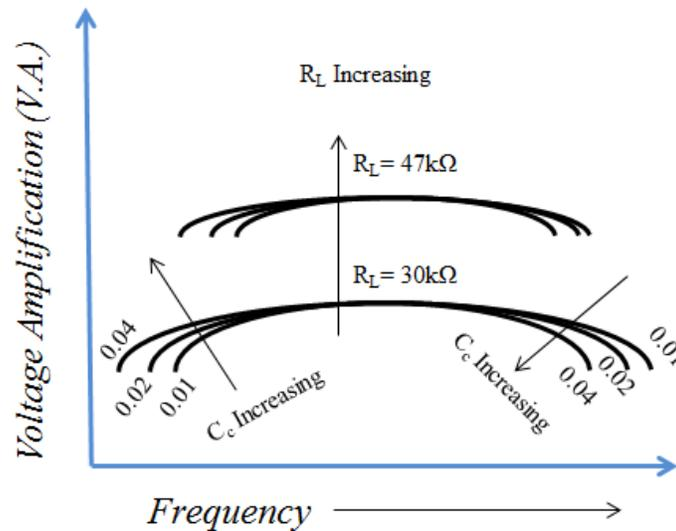

Figure 2: Frequency response curve of RC coupled amplifier
**RESULT:** Graph is plotted between voltage amplification and frequency for various values of load resistor ( $R_L = 30\text{ K}\Omega$  and  $47\text{ K}\Omega$ ) and coupling capacitor ( $C_c = 0.01, 0.02, 0.04\ \mu\text{F}$ ). It is observed in Figure 2 that voltage amplification is not constant at low and high frequencies but remains fairly constant at mid frequencies. At higher load values, length of flat portion of the response curve decreases.